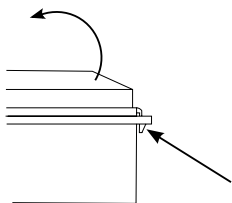

Fig. 1
- 1B.** Access the battery compartment, push the tab in on the side of the battery box then open it about three inches (Fig. 1).